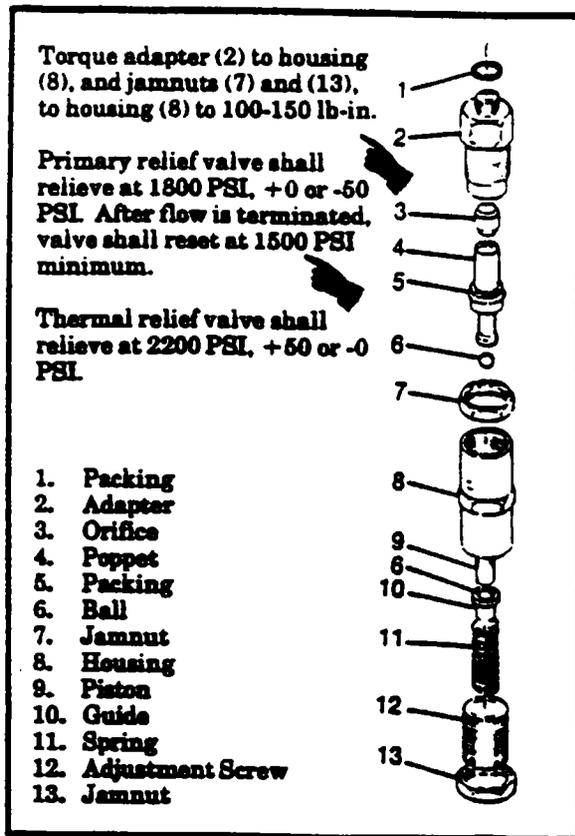

Figure 5-4. Relief Valve Assembly
The primary relief valve (14), located between the self-relieving check valve (20) and hydraulic pump (15), serves to limit that amount of pressure which can be generated by the hydraulic pump. The thermal relief valve (8), located on the system side of the self-relieving check valve (20), serves to limit the system pressure. System pressure may increase due to thermal expansion. Both valves are identical except for differing pressure relief settings. Refer to figure 5-4.
5-12A BENCH CHECK OF PRIMARY AND THERMAL RELIEF VALVES. (Refer to figure 5-4).